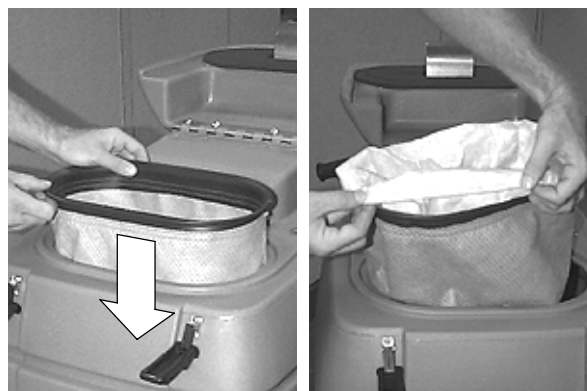

FIG. 11
1. Open machine cover and install cloth filter bag, make sure that the bag edge is properly seated on compartment rim (Figure 11).